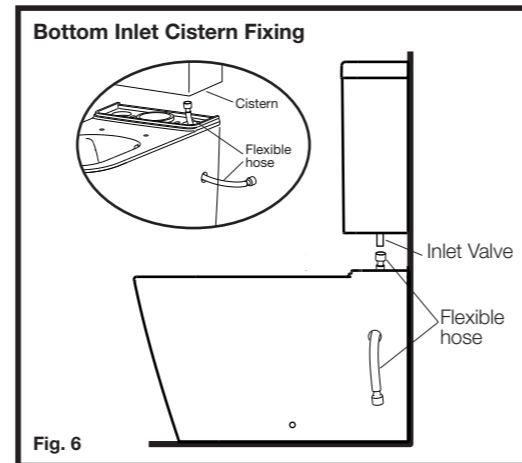

Fig. 6
**IMPORTANT - FOR BOTTOM INLET, BEFORE INSTALLING PAN, FEED FLEXIBLE HOSE THROUGH SIDE OF PAN AND UP TO ENABLE EASY CONNECTION TO CISTERN INLET VALVE (REFER TO FIG. 6.)**